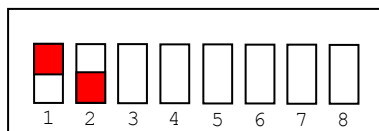

Figure 3 – Boot jumper setting for USB OTG
1. Set the boot jumpers in OTG boot mode as shown in Figure 3. First jumper in the *up* position and the second jumper in *down* position. Please note that the orientation of the DIP switch component can be different on different COM boards. Make sure you are changing the correct jumper by looking at the number by the jumper.